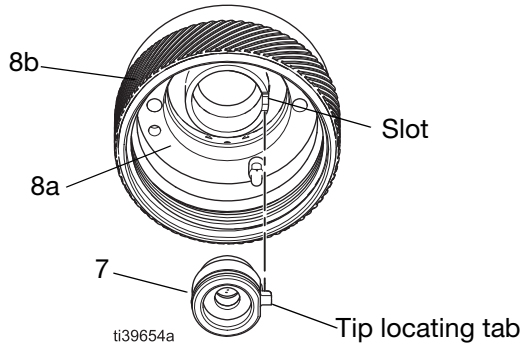
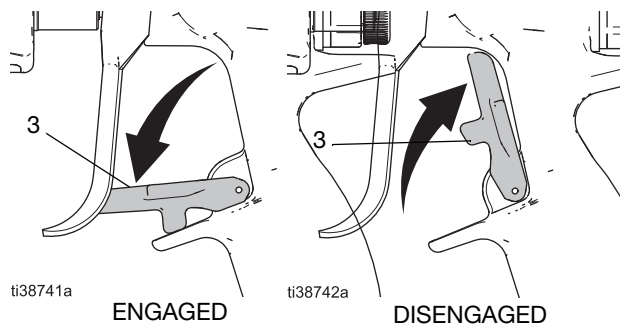

FIG. 7: Spray tip and air cap setup (back view)
FIG. 12: Trigger lock positions
2. Engage the trigger lock (3). See FIG. 12, page 15.
3. Remove the air cap assembly (8) and spray tip (7).
4. Install the spray tip (7) in the air cap (8a) with the tip locating tab positioned in the air cap slot. See FIG. 7.
1. Engage the trigger lock (3). See FIG. 12.
4. Disengage the trigger lock (3). See FIG. 12.
6. Engage the trigger lock (3). See FIG. 12.
7. If you suspect the spray tip (7) or gun fluid supply hose (G) is clogged or that pressure has not been fully relieved:
- a. VERY SLOWLY loosen the retaining ring (8b) or the hose end coupling (22) to relieve pressure gradually.
- b. Loosen the nut or the coupling (22) completely.